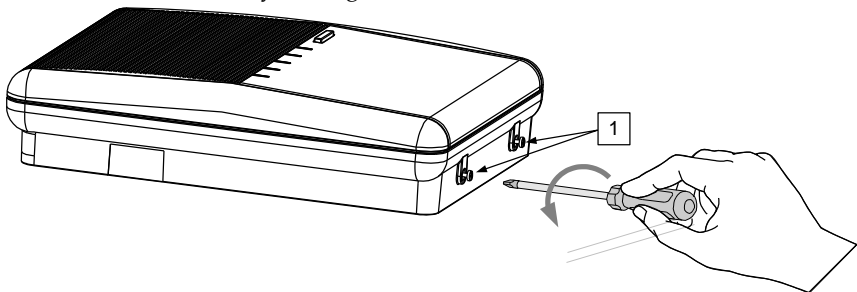

Figure 2: Mounting Bracket screws
- a. Release the Mounting bracket captive locking screws (1, Figure 2) located at the bottom of the unit, by turning screws counterclockwise.